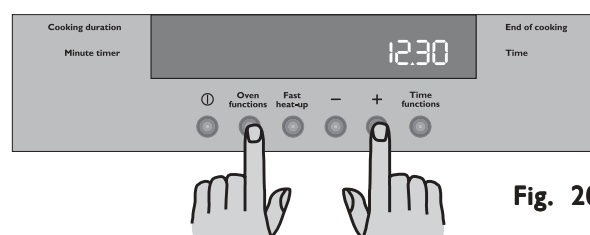

Fig. 20
- 1) Press buttons Oven functions and "+" at the same time for about 3 seconds. The Electronic Control beeps once (Fig. 20).